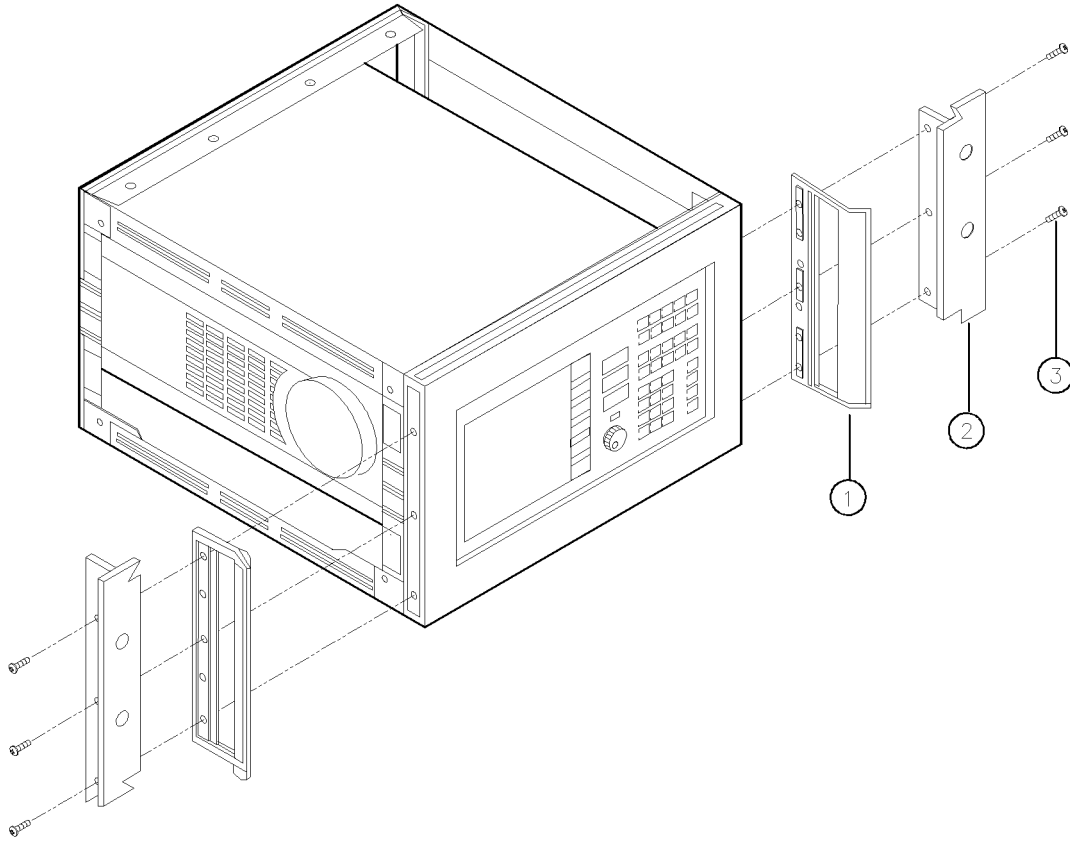

Figure 4. Installing Rack Flanges and Handles
15. Place the instrument in its operating position. See Figure 4. For part number 5062-4840 kits, mount the handles ① and rack flanges ② to the rack frame using six M4 16 mm pan-head screws ③. Part number 5062-4841 kits do not come with handles; the rack flanges mount directly to the rack frame using six M4 10 mm pan-head screws.